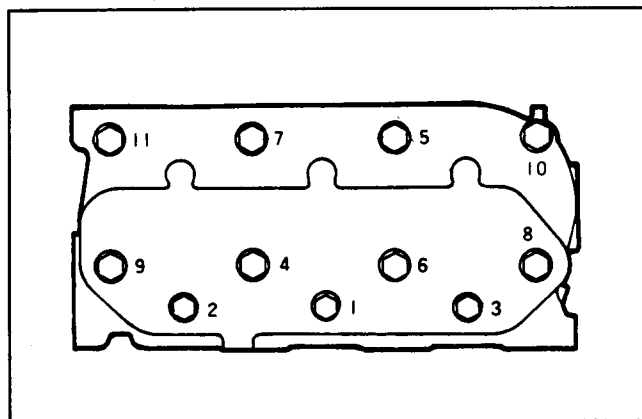

Figure 9
4. Tighten the cylinder head bolts to the proper torque. The rocker assembly must be removed before tightening the cylinder head bolts. When tightening the cylinder head bolts, lower the coolant level in the engine, loosen the bolts slightly and then re-tighten in the sequence shown (Fig. 9).